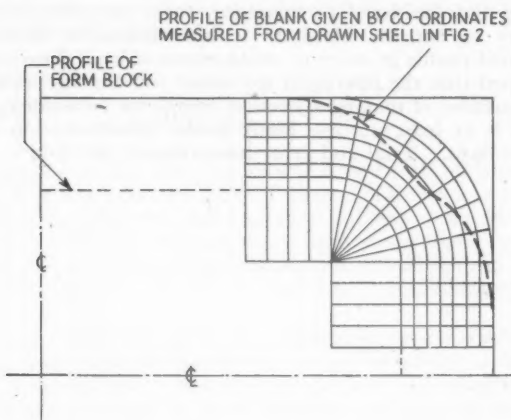
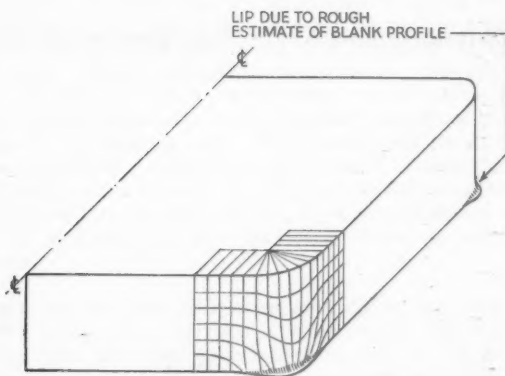

FIG. 1.
FIG. 2.
**PRESSING PROBLEMS** In the case of rectangular draws, the type of grid which may be used is illustrated in Fig. 1, and the distribution after drawing is indicated in Fig. 2. It is obvious that unusual forming operations may be solved by similar grids, and the blank profile may be measured or read off directly from the formed part, since the original spacings are known. These readings are then transferred back to another unformed specimen with the